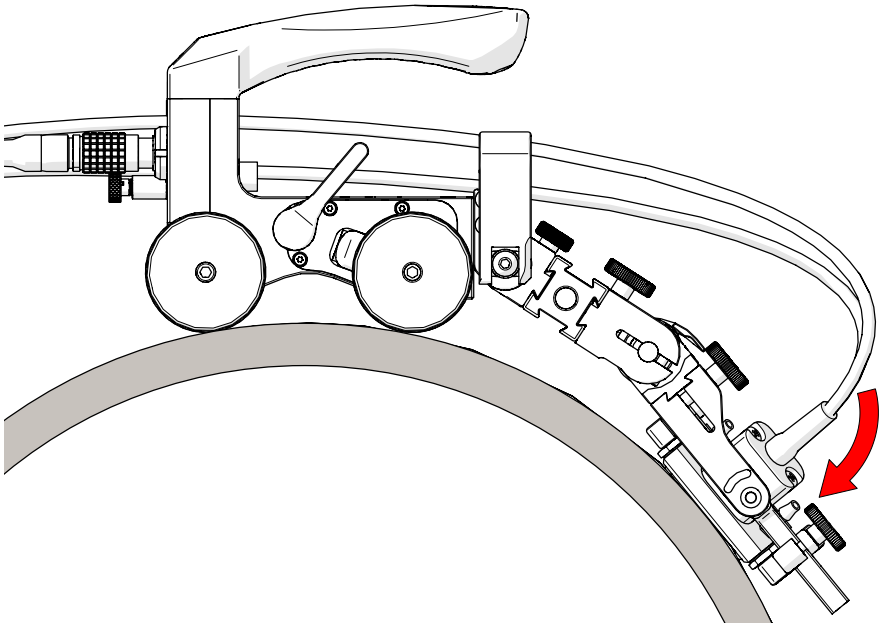

Fig. 82 - Lower probes to scan surface
9. Lower the probes (Fig. 82) to the scan surface using the probe holders (see *Probe Holder Adjustment* on page 24).